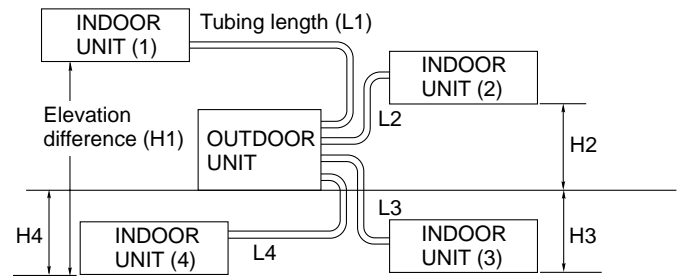

Fig. 2
- install the unit within the maximum elevation difference (H1, H2, H3, H4) above or below the outdoor unit and within a total tubing length (L1+L2, L1+L2+L3, L1+L2+L3+L4) from the outdoor unit as detailed in Table 1 and Fig. 2.